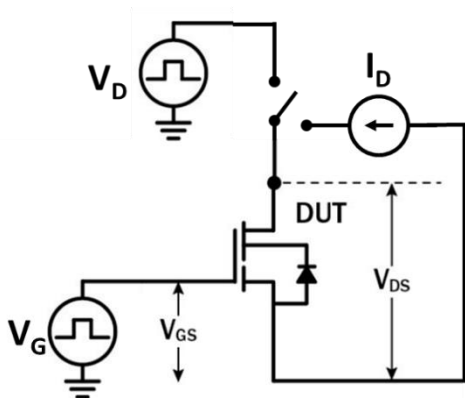

Figure 18. Dynamic  $R_{DS(on)eff}$  Test Circuit
g. Dynamic  $R_{DS(on)}$  value; see Figures 18 and 19 for conditions